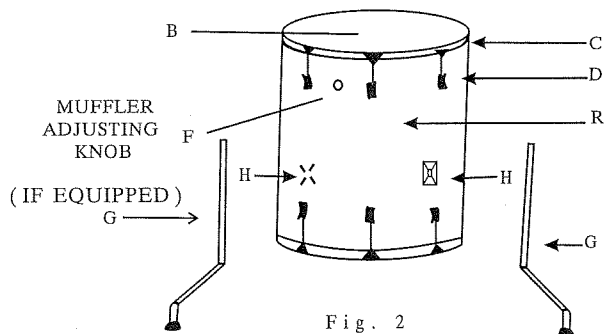

Fig. 2
Figure 2. Lay floor tom shell (A) on flat surface on end. Next lay 16" head (B) on top shell with the flange side down. Now place 16" tension hoop (C) over head and align the holes with the tension lugs (D) on side of drum. After inserting tension through washers, insert through holes on tension hoops and tighten into tension lugs. To adjust tension evenly around drum to get desired sound, use drum key. Turn drum over and repeat directions on the other end. The bottom of the floor tom can easily be determined by locating the leg brackets (H). These are located on the side of the drum and closer to bottom end. Now lay the drum on its round side and insert the legs (G) into the leg brackets (H) on the side of the drum do the rubber tips will be sitting on the flat surface when you raise the drum. After raising the drum, adjust to desired height by loosening the wing nuts on the leg brackets and sliding the drum up or down on the legs. Retighten wing nuts securely.